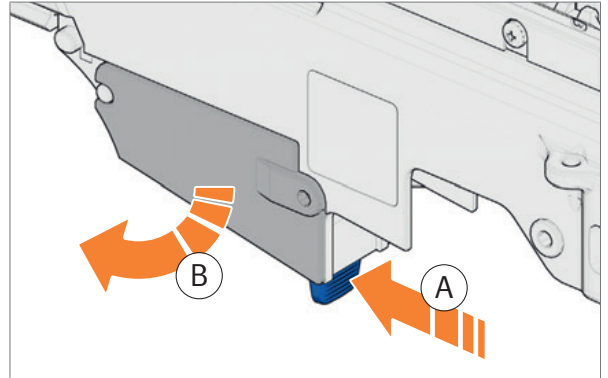

Fig. 104: Remove magazine well
2. Push magazine catch forwards and hold it (Fig. 104).
3. Remove magazine well downwards (Fig. 104).